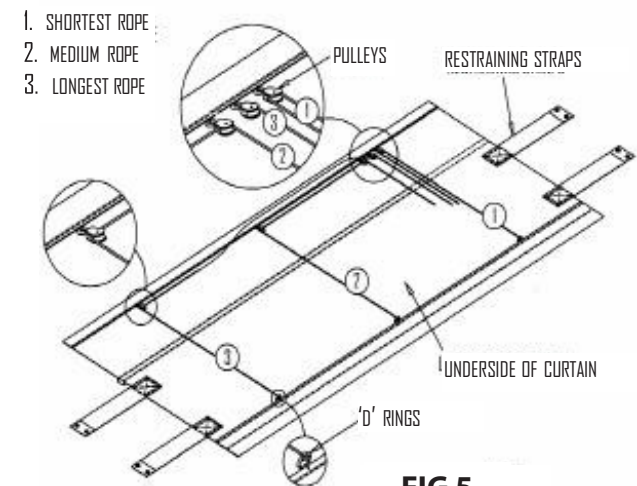

FIG 5
- Feed pull ropes (3 different lengths) through the "D" rings and pulleys (Fig. 5).
- Each side of the header seal has one or two restraining strap(s) (Fig. 5) with two grommet holes each. These flaps should be mounted to the wood backing of the vertical seals using No. 14 wood screws.